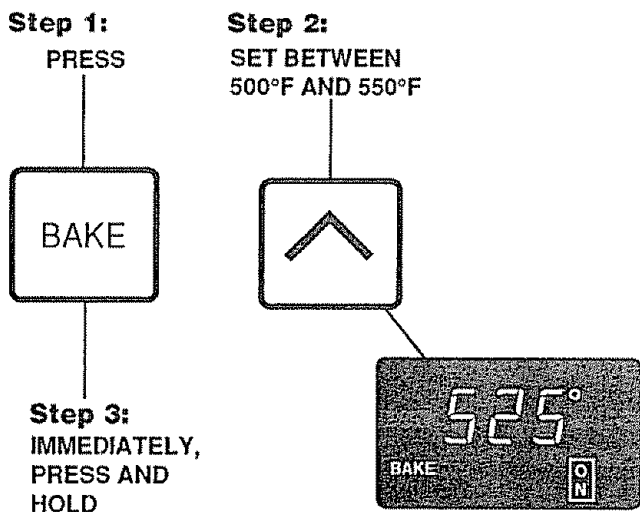

Fig. 1
2. Select a temperature between 500°F and 550°F by pressing . See Fig. 1.